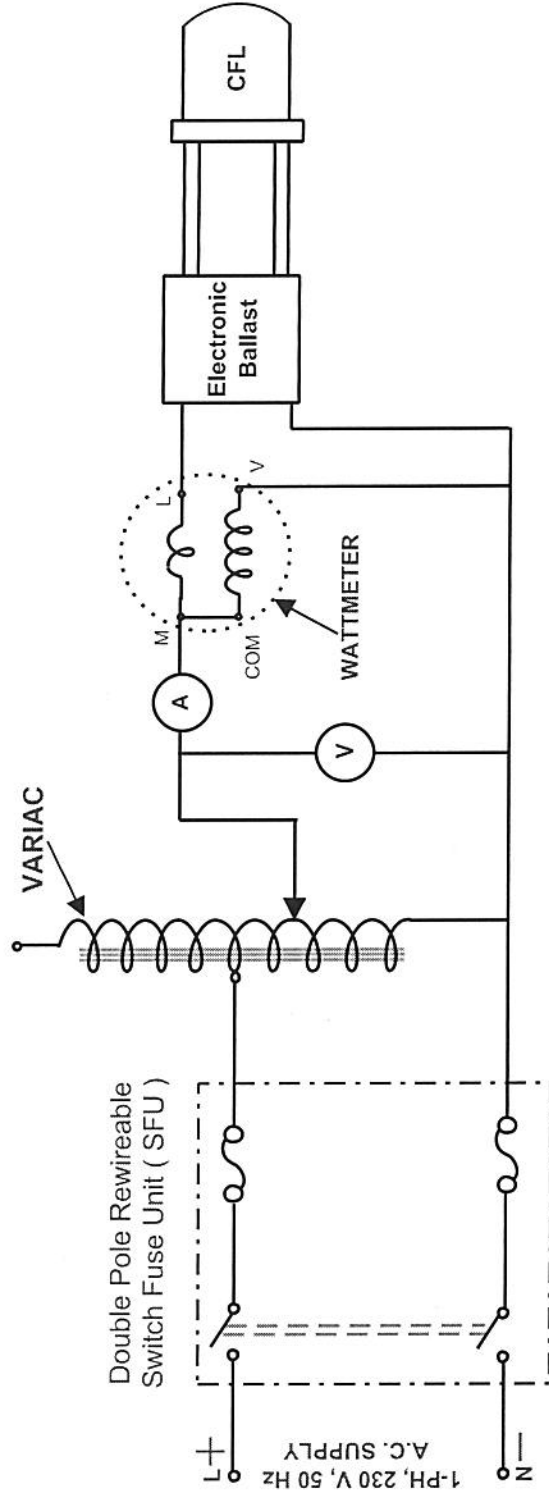

Fig: 6.4 Circuit Diagram For Determination Of Lamp Characteristic With Electronic Ballast (Compact Fluorescent Lamp)
8. Connect the Compact Fluorescent (CFL) as shown in Fig.6.4. and measure the power consumption and compare with readings for Fluorescent lamp.